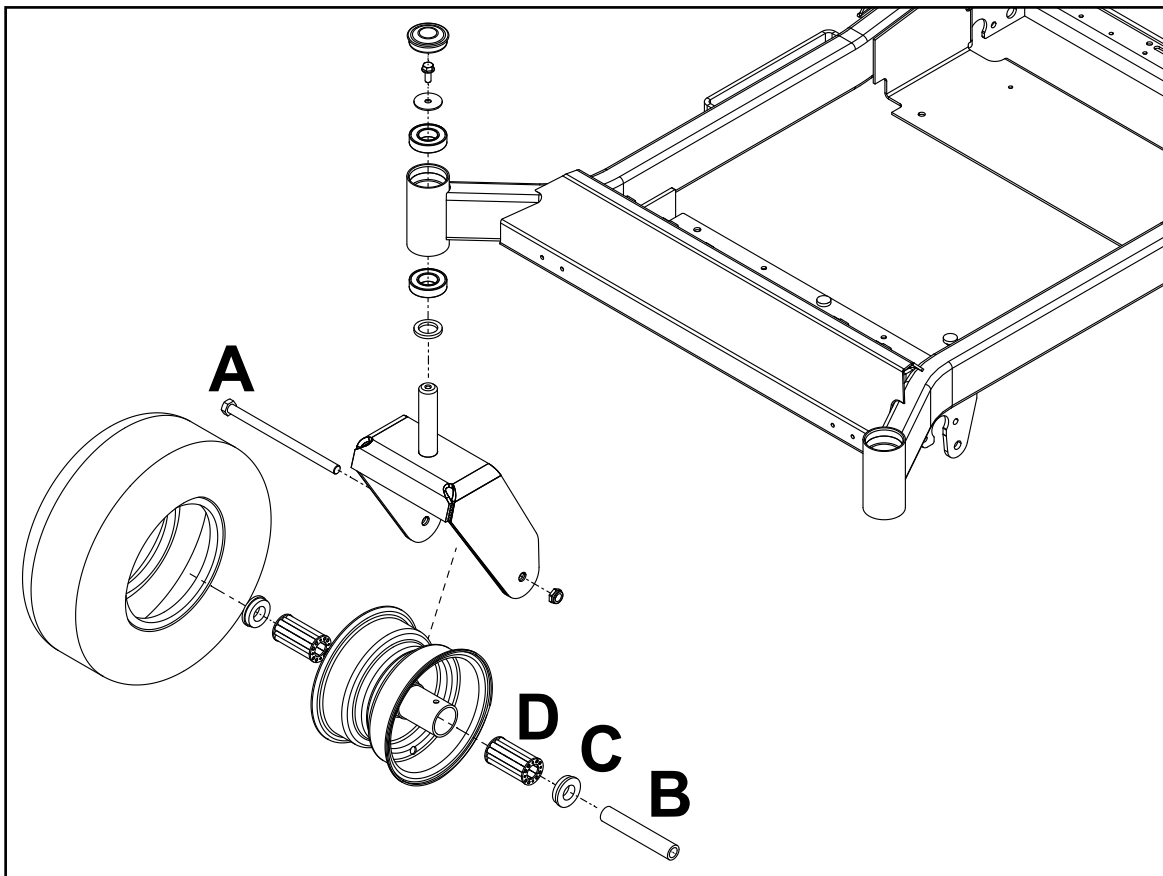

Fig. 009
1. Lightly lubricate bearings (D), bushings (C) and wheel spanner (B) with No. 2 general-purpose lithium base grease. Fill center of wheel hub with grease.
2. Install the (2) bearings (D) and (2) bushings (C) into front wheel hub, making sure they are fully seated.
3. Install wheel spanner (B) into the front wheel assembly.
5. Install the nut / bolt (A) and torque nut to specification - 35 ft-lbs. (47 Nm).
7. Safely lower unit and verify proper function (Fig. 009).